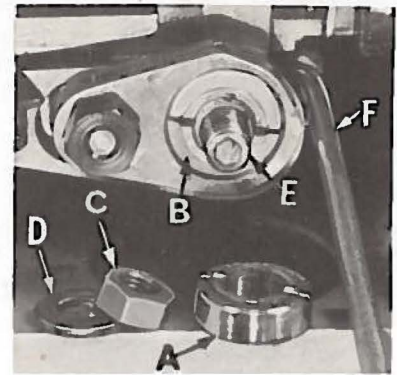

Fig. 15
Length of stitch is determined by the combination of feed eccentrics used. Outer (left) eccentric (A, Fig. 15) actuates main (rear) feed dog; while the inner (right) eccentric (B) actuates the differential (front) feed dog.